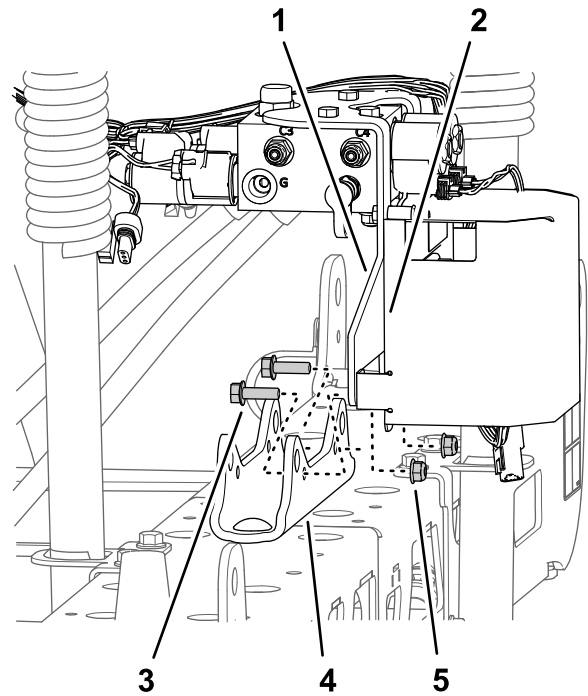

Figure 48
- **For machines with the optional ultra sonic boom leveling kit:** Remove the 2 flange locknuts (5/16 inch) and 2 flange-head bolts (5/16 x 1 inch) that secure the support bracket for the section-lift manifold and the TEC controller bracket to the cylinder mount, and separate the manifold and bracket from the cylinder mount (Figure 48).